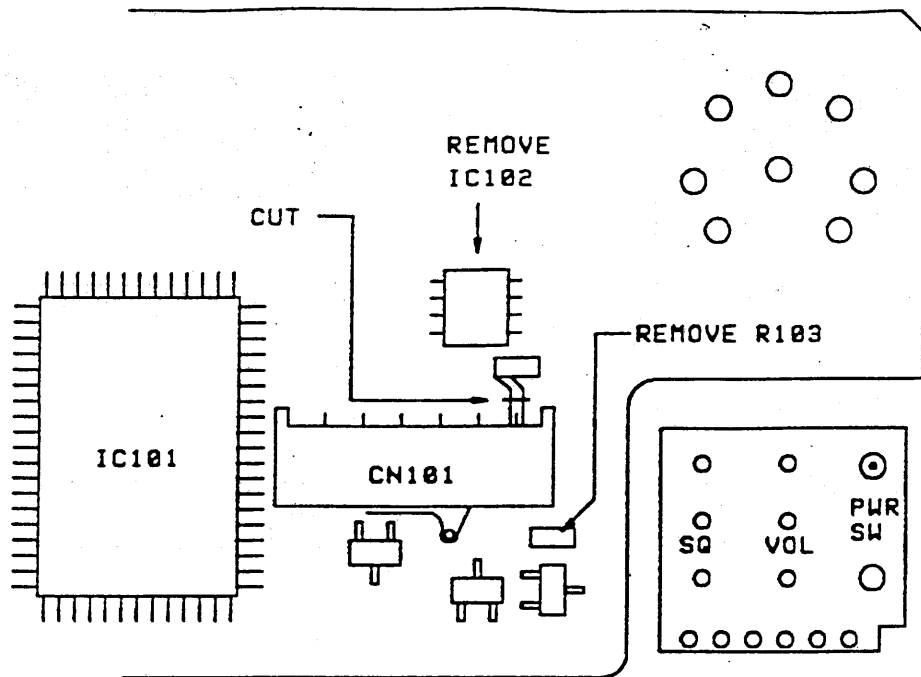

FIGURE 6
13. Remove IC102 from the Control board. Since this device is glued to the board, use a needle tip tool to lift each pin as you melt the solder. Then pry the chip off the board with a craft knife. **Figure 6**
15. Remove chip resistor R103. Do not melt connector CN101. **Figure 6**
16. Cut the foil pattern between connector CN101 and chip capacitor C102. Make the cut as close to connector CN101 as possible. **Figure 6**